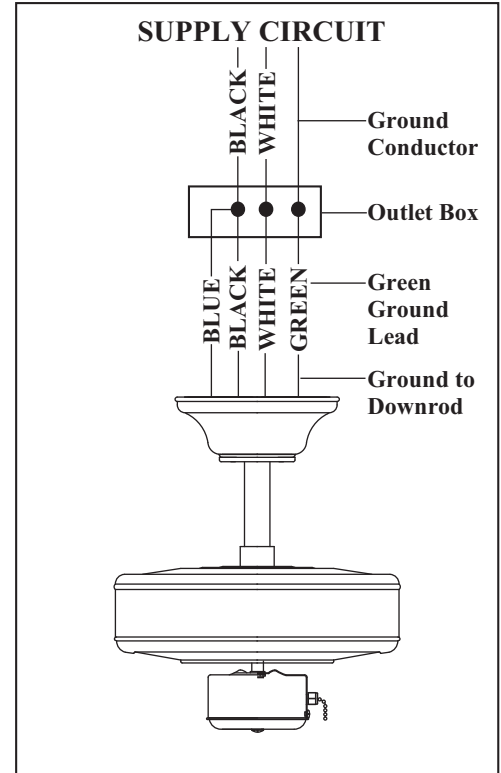

Figure 13
1. Connect the ground conductor of the 120V supply (this may be a bare wire or a wire with green colored insulation) to the green ground lead(s) of the fan. (Figure 13) When using standard ceiling mounting, there are two green grounding leads; one from the ceiling mounting bracket and one from the ball/downrod assembly. When using “Close-to-Ceiling” mounting, there is only one green ground lead from the ceiling mounting bracket since the ball/downrod assembly is not used.
2. Connect the fan motor white wire to the supply white (neutral) wire using a wire nut. (Figure 13)
3. Connect the fan motor black wire to the supply black (hot) wire using a wire nut. (Figure 13)